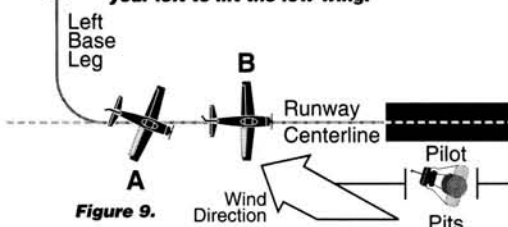

Figure 9.
- If the plane's right wing starts to drop, add left aileron and rudder: *move the sticks to your left momentarily* (see Figure 9, plane A).
Then side-slip the plane for a perfectly aligned touchdown, with right aileron—*aileron stick to your right*—and left rudder—*rudder stick to your left* (see Figure 9, plane B).